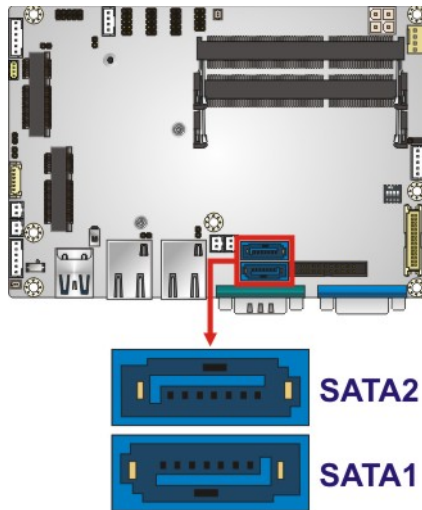

Figure 3-21: SATA 6Gb/s Connector Locations
- CN Location:** See **Figure 3-21**